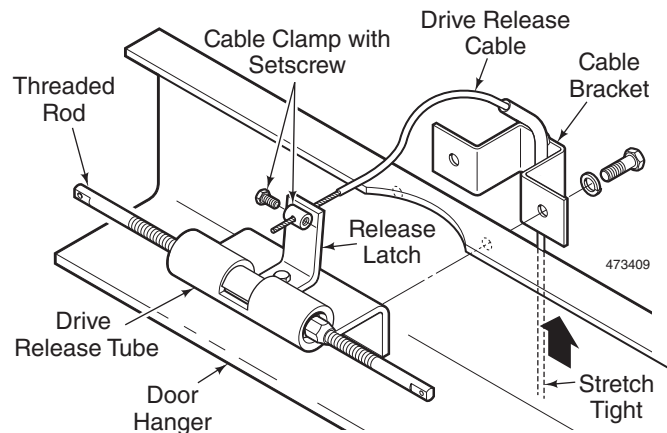

Figure 18
1. Align the threaded holes in Drive Release Tube and the holes in the Cable Bracket with the pre-drilled holes in the Door Hanger channel. Fasten both securely to the channel with the cap-screws and lockwashers supplied. See *Figure 18*.